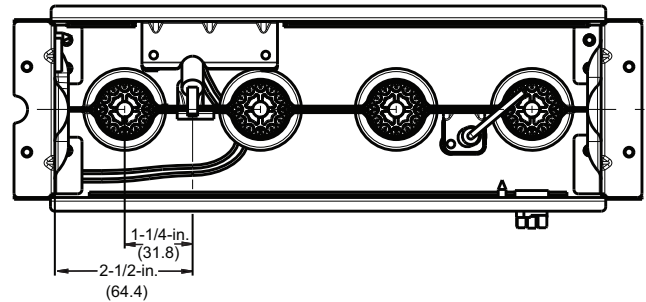

Fig. 66 - Igniter Position - Top View
8. Check the igniter alignment. See Fig. 66, 67 and 65.
The igniter does **NOT** require annual inspection. Check igniter resistance before removal. Refer to Fig. 66, 67 and 65.